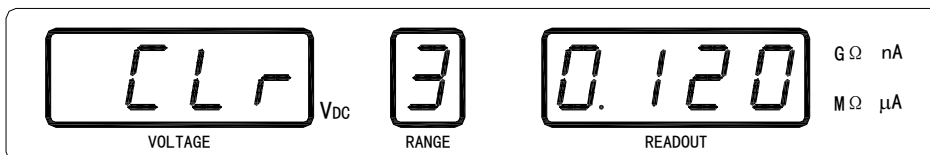

Figure 3-15 Open Correction
- 4) Press **CLEAR** key again to start the open correction operation. "CLR" message will be displayed in the voltage window, all ranges will be corrected in turn and open correction measurement value for each range will be displayed in the readout window as shown in the Figure 3-15.